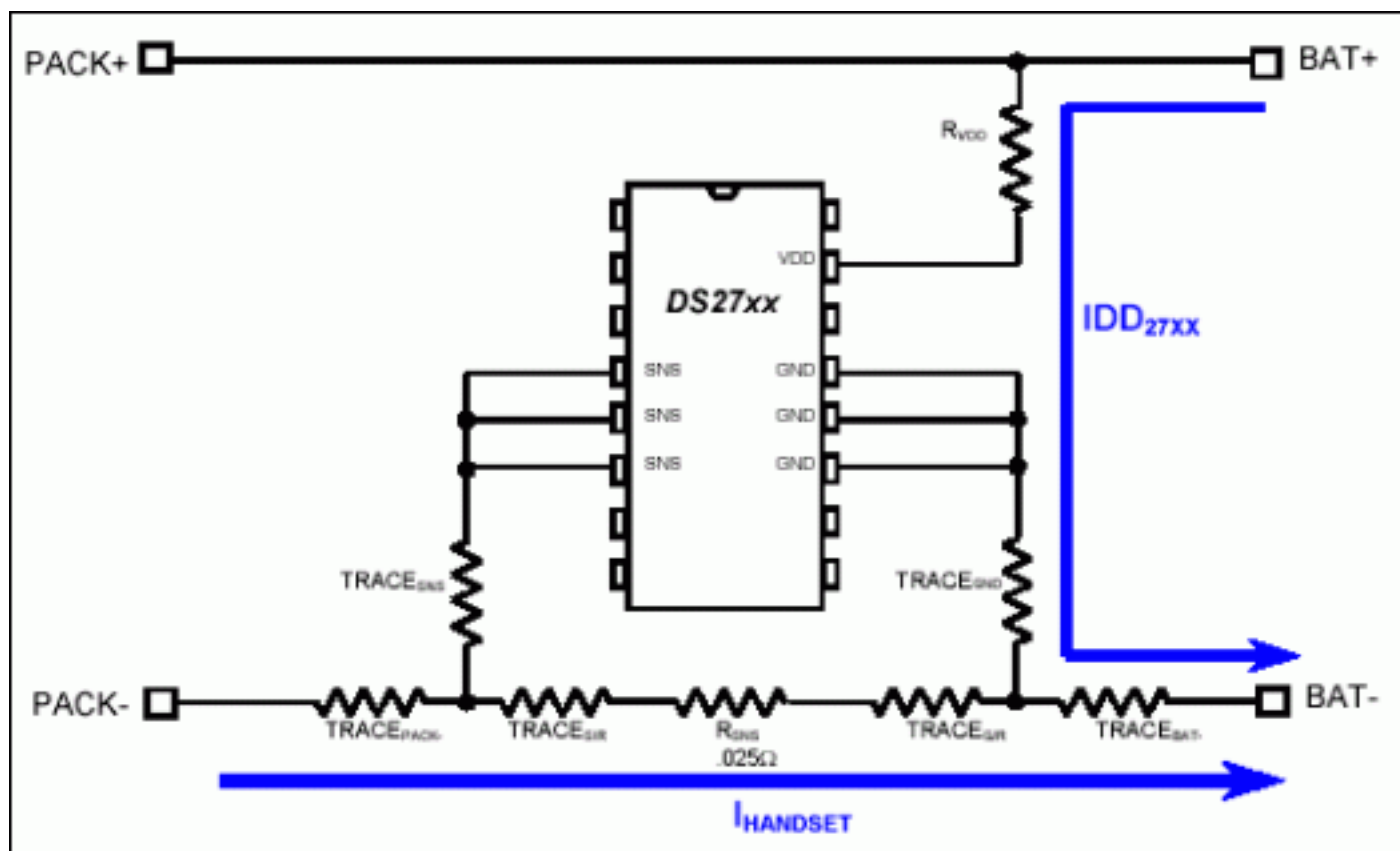

Figure 1. DS27xx measurement system sources of error.
**Figure 1** shows possible sources of measurement error with external sense resistor fuel gauges. Other connections have been left out for simplicity. The fuel gauge accumulates current by measuring the voltage drop between the points where the sense lines, SNS and GND, contact the application current path,  $I_{\text{HANDSET}}$ . Ideally these contact points would be directly at the sense resistor. Any trace resistance between the contact points and the sense resistor, labeled  $\text{TRACE}_{S/R}$  and  $\text{TRACE}_{G/R}$  in the circuit, will affect the gain error of the measurements as follows: